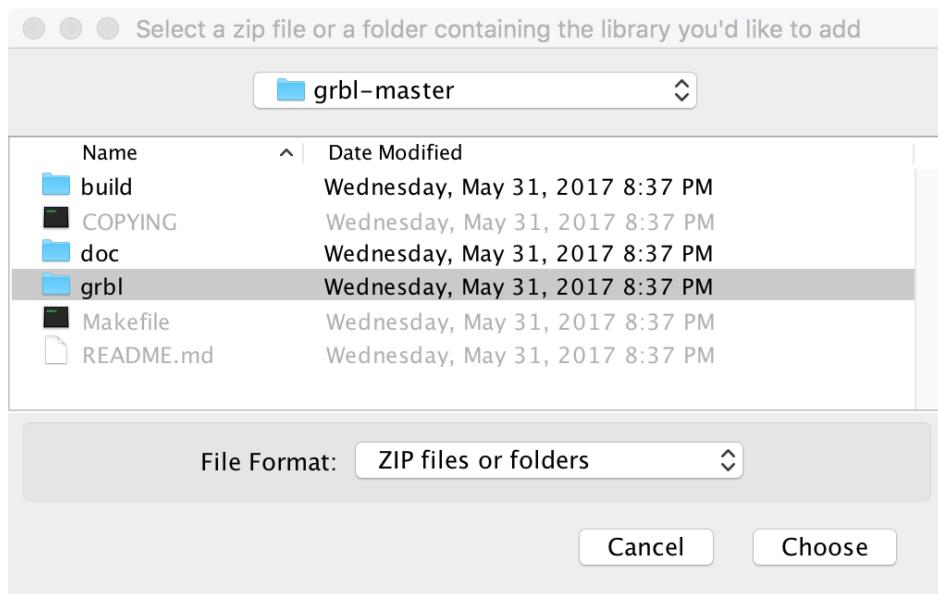

Figure 2.2: Loading Grbl library into the Arduino IDE
- **IMPORTANT:** Select the `Grbl` folder *inside* the `grbl-XXX` folder, which **only** contains the source files and an example directory (figure 2.2).